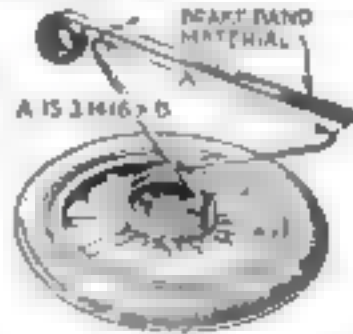

Fig. 5. A handy caliper for measuring a brake band lining saves material, time and patience.
**BRAKE** band lining is expensive material, and the motorist tries to figure his requirements as closely as possible so as to avoid both the cost of buying too much and the loss which follows the cutting of a piece that is too short. It is easy to build yourself a double ended caliper as shown in Fig. 5, that will tell you just the right length of brake lining needed to fit any particular size of brake band. The distance from hinge pin to the short end should be just seven inches if the
long end measures twenty-two inches from the hinge pin. This caliper gives a length between the long ends that will equal the circumference of a circle if the short end is set to the diameter of the circle as shown in Fig. 5.
**GEORGE E. LUERS**, of Washington, D.C., wins the \$10 prize this month for his method of measuring brake band lining, shown in Fig. 5. Each month **POPULAR SCIENCE MONTHLY** awards \$10 in addition to regular space rates for the best idea for motorists. Other published contributions will be paid for at usual rates.